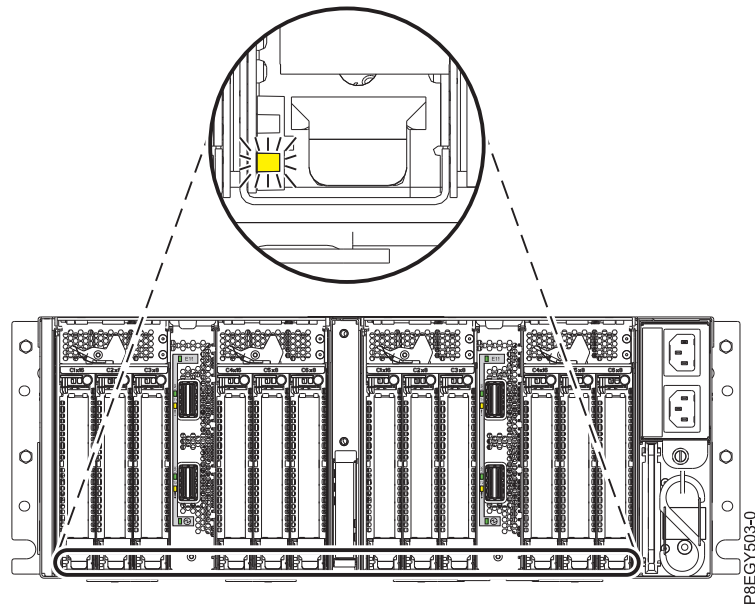

Figure 34. Location of the PCIe adapter amber fault or identify LED (bottom LED) in the EMX0 PCIe3 expansion drawer
7. Look for the flashing amber fault LED (bottom LED) that you enabled to identify the PCIe adapter slot. Refer to Figure 34.